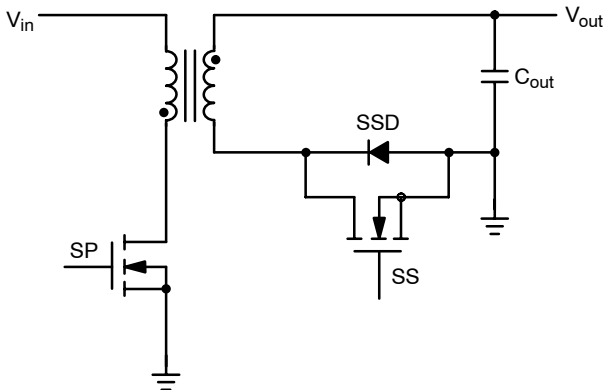

Figure 30. Synchronous Rectifier
For a flyback converter to operate correctly with synchronous rectification there must be a delay between the time when the primary side MOSFET (SP Figure 30) and the secondary side Synchronous rectification MOSFETs (SS
The basic switching waveforms for the Flyback converter operating in DCM are shown in Figure 31. When the primary side MOSFET (SP in Figure 30) is turned-on current flows in the transformer primary and ramps up from zero to  $I_{peak}$ . When the primary side MOSFET (SP) turns-off the polarity of the transformer reverses and the energy stored in the transformer is transferred to the secondary. When the energy transfer from the transformer primary to the transformer secondary begins, (prior to the secondary side synchronous MOSFET turning-on) the secondary current flows through the internal body diode synchronous rectifiers MOSFETs (SS) (SSD). To minimize the losses in the SSD, the propagation delay ( $t_{p1}$ ) must be low. Otherwise there will be high losses associated with the secondary peak current and the SSD forward voltage drop (NCP4302 has a typical propagation delay of 50 ns).